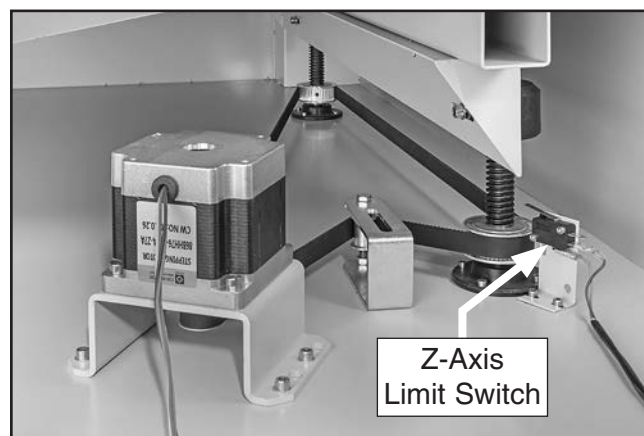

Figure 28. Location of Z-axis limit switch.
13. Open front access door and locate Z-axis limit switch (see **Figure 28**).